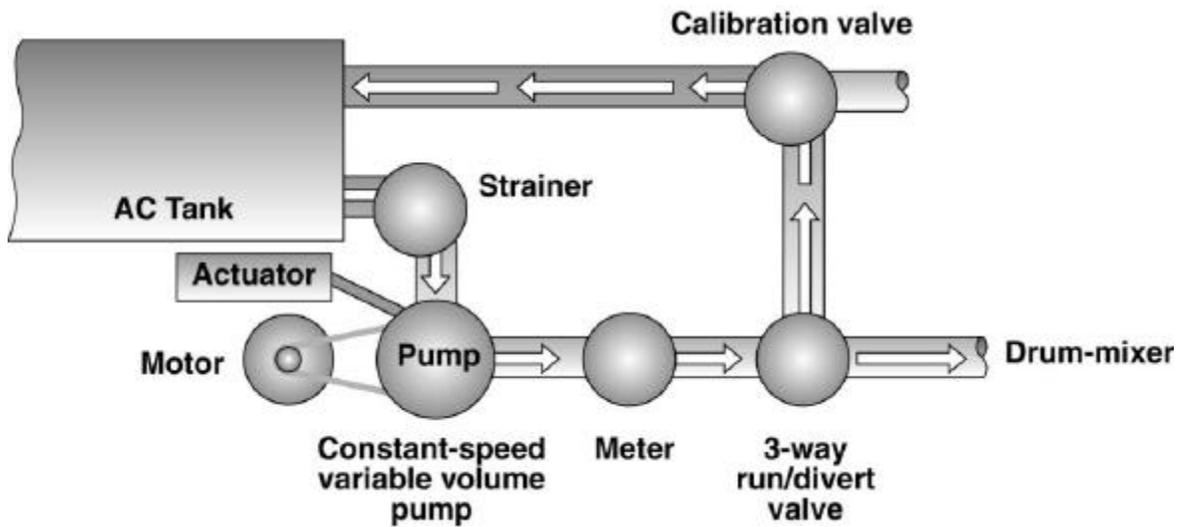

Figure 4.26 Asphalt metering system for drum-mixer plants with constant speed variable volume pump.
- A variable-volume, constant-speed pump. The asphalt flow control is accomplished by varying the volume of asphalt pumped with each revolution of the pump as shown in figure 4.26.